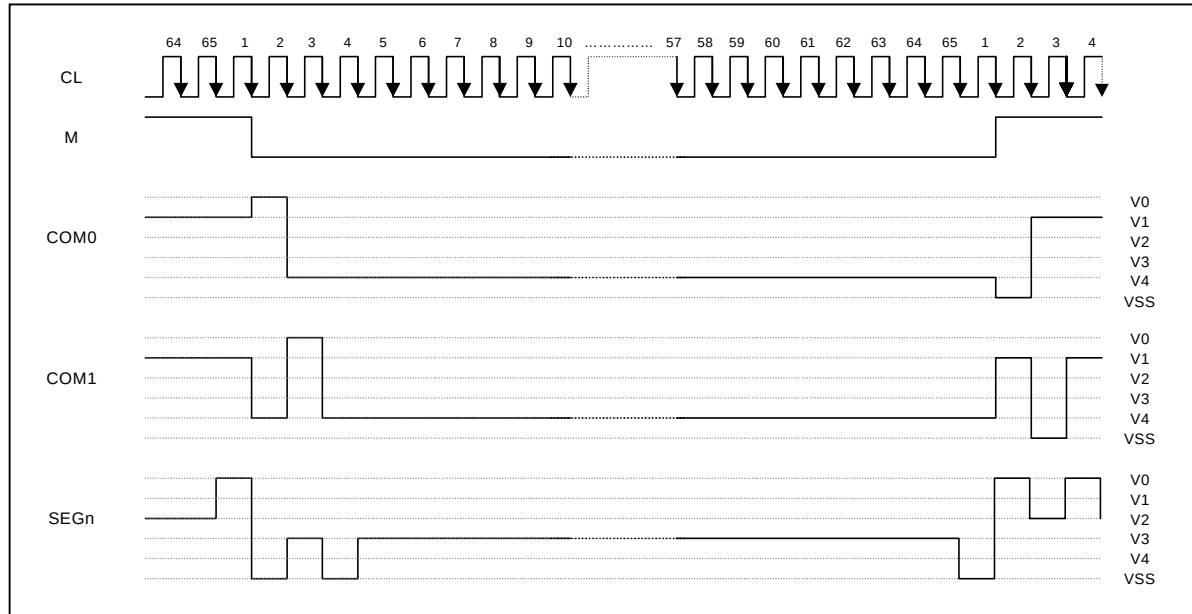

Figure 6-7. 2-frame AC driving waveform (Duty ratio = 1/65)
The display timing generator circuit generates an LCD AC signal (M) which enables the LCD driver to make a AC drive waveform, and also generates an internal common timing signal and start signal to the common driver. Driving 2-frame AC driver waveform and internal timing signal are shown in figure 6-7.